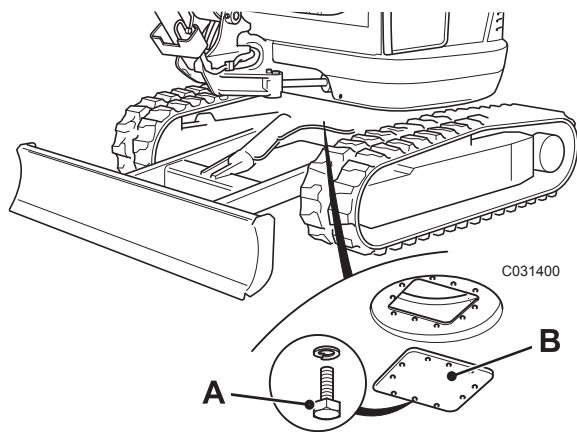

Fig 3.
- 3 Remove bolts **A** and plate **B** in the underside of the undercarriage. ⇒ Fig 3. \(□ 3-24\)